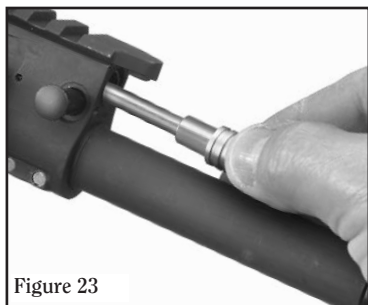

Figure 23
- a. With the large end of piston towards the muzzle of the rifle, drop the piston into the piston bore in the front of the gas block. Place the regulator detent on the front of the gas block and insert the regulator through the detent and then the piston bore. Rotate the regulator until its flat side is aligned with the regulator detent hook, then press down and rotate regulator to align it with the gas block hook. Using a small punch gently move the regulator detent hook out of the way and press the regulator into the gas block until the regulator rim is seated against the regulator detent. Rotate the regulator so that its rim engages the gas block hook (see Figure 26). Push the regulator pin all the way in and set the regulator position to the desired setting. (See Figures 23 - 19, pp. 28 & 29.)